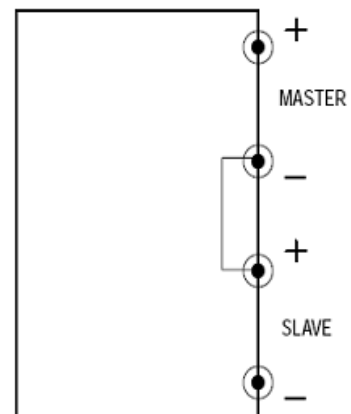

Figure 2 : Series Tracking Inside config
1. Set the tracking buttons to the option choosing the series connection. This is actually the series tracking mode. Internally the configuration is as Figure 2 on the right.